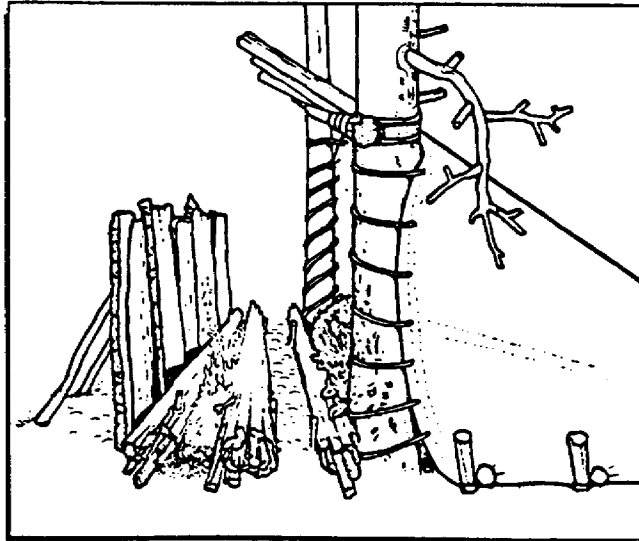

Figure 57. Fire reflector.
c. To get the most warmth from the fire, build it against a rock or log reflector (Figure 57). This directs the heat into the shelter. Wall-in cooking fires by using logs or stones. This provides a platform for cooking utensils and serves as a windbreak to help keep the heat confined.